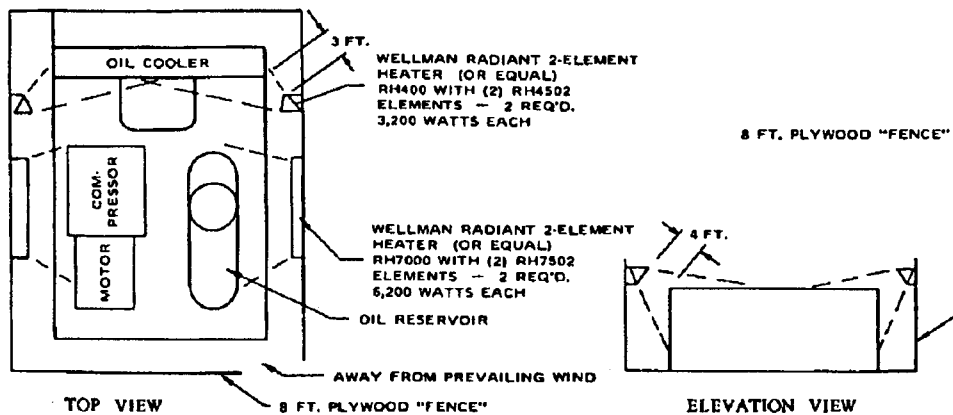

FIGURE 3-2
3. Some means of providing heat to the oil reservoir and cooler during shutdown should be provided. There are various methods to accomplish this, but since openings are not provided for sump heaters, the use of radiant heaters is recommended. The heaters should be sized to provide at least a -10° F environment for the coolers, motor and sump. Figure 3-2 shows how these might be located in a typical installation and sizes required.